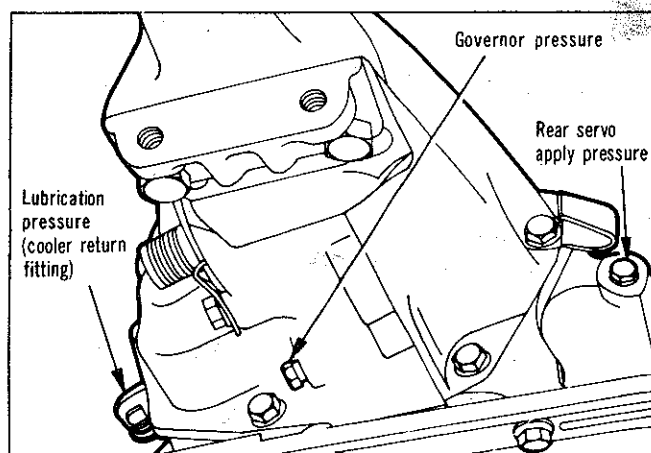

Fig. 14—Pressure test locations (rear end of case)
(1) Connect a 0 to 700 kPa (0 to 100 p.s.i.) pressure gauge, Tool E21C65 to governor pressure take-off point, located at lower left side of extension near the mounting flange (Fig. 14).
(2) Governor pressures should fall within the limits given in the "Governor Pressure Chart".